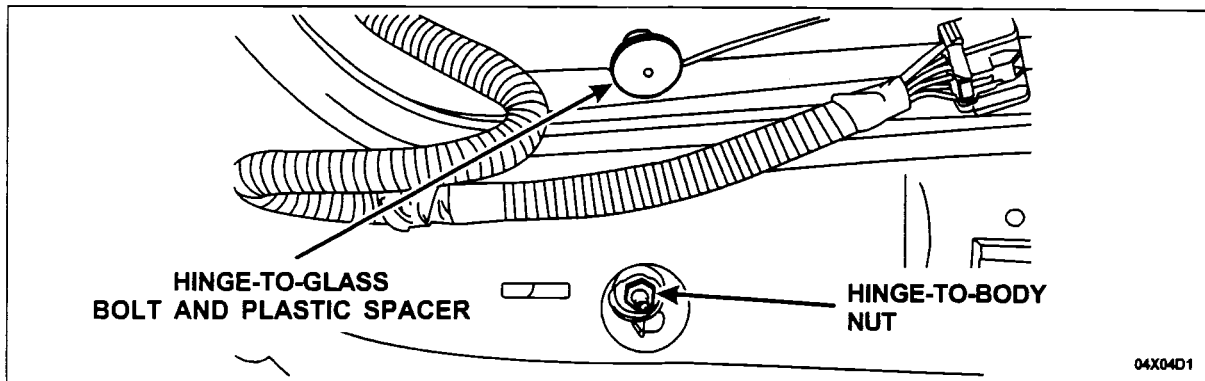

FIGURE 4
- Using a magnetic socket or tool, remove one (1) liftgate glass hinge-to-body nut, then the hinge-to-glass bolt and remove one (1) hinge from the vehicle. Retain the plastic spacers from the hinge-to-glass bolts for use with the *new* bolts. See Figure 4.